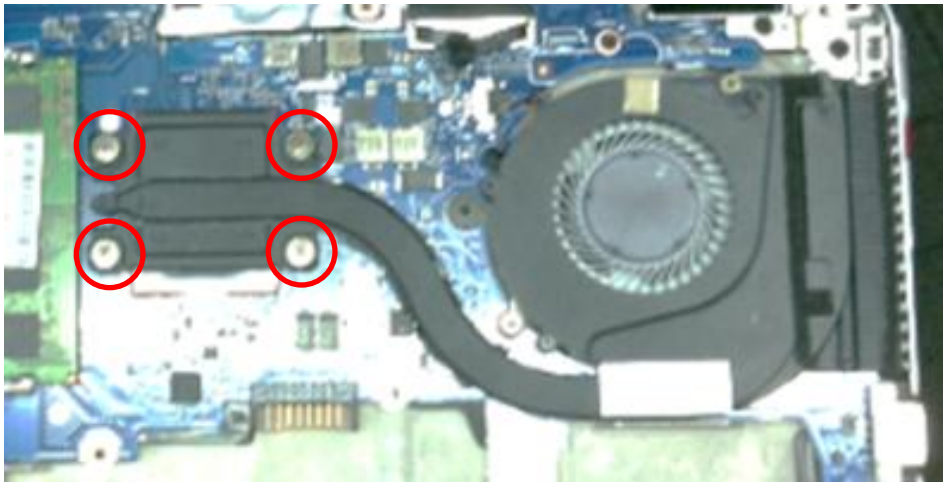

Fig.1
1. Loosen Thermal screw *4, then remove Thermal module. (Fig.1)